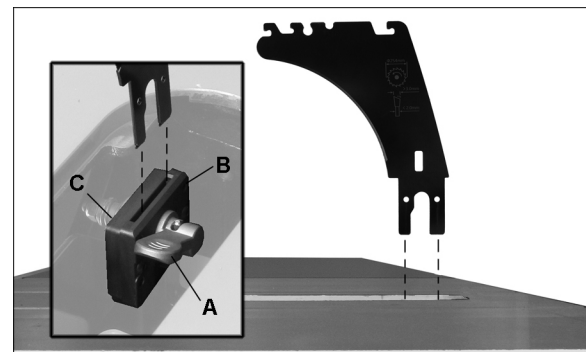

Figure 6-9
See Figure 6-9.
4. Through the saw table opening, pull up lever (A, Figure 6-9). The floating clamp block (B) will move away from the fixed block (C), leaving a gap.
The clamping block (Figure 6-9) is adjusted at the factory and no further adjustment of blade guard and riving knife assembly should be necessary. However, proper alignment is very important. Before operating table saw, read sect. 8.3, *Riving knife alignment*, to verify and follow the adjustment procedure if necessary.